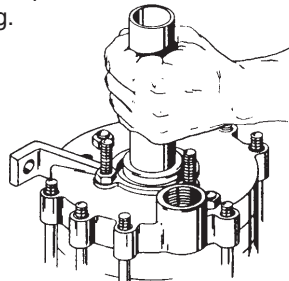

Figure 4-14
23. Install the seal cup with the face of the seal towards the rotating element.(refer to figure 4-14) A short length of pipe will help to tap the cup down until it contacts the ring.